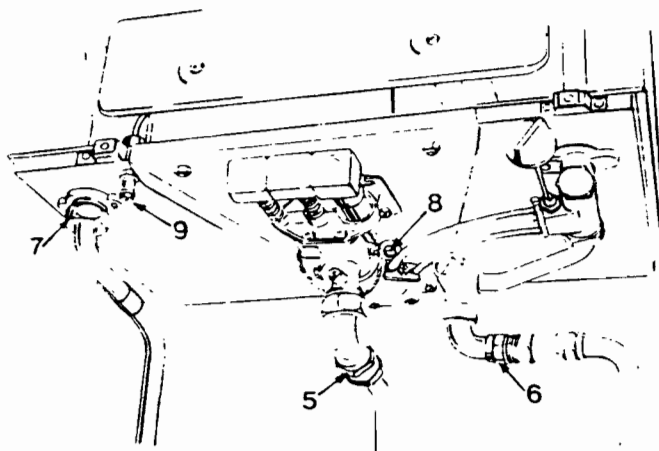

FIG. 3
Assemble copper tail and gas service cock (marked G) to the Gas Inlet (5) Fig. 3. 15mm Copper pipe to BS. 2871 may be used for a supply pipe not exceeding 3 metres (10 ft). Where the installation contains many bends or the length is in excess of this, the use of 22mm copper pipe is recommended to ensure the correct inlet working pressure.
Connect water service cock and copper tail to the water inlet tail at (6) Fig. 3.
Connect hot water pipes to water outlet tail at (7) Fig. 3. Check that there are no water leaks after connection.
Turn on the water service cock. Turn on a hot draw off tap. The burner ignition should be smooth. Adjust by means of the small slotted screw in the diaphragm housing (8) Fig. 3. Turn clockwise to delay the burner ignition.
When the ignition adjustments have been completed attach a pressure gauge to the pressure test point (9) Fig. 3. after removing the screw and sealing ring. Light the pilot and open any hot draw off tap. Check the burner pressure against the table shown in the Technical Data Page 3.